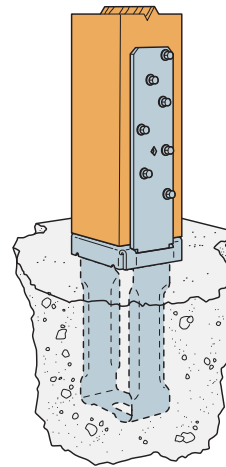

Figure 1 — Post Base with 1" Standoff
- For post bases with 1" standoffs, **full bearing on concrete is required**. A higher download may be achieved by solidly packing grout in the 1" standoff area before installation of the post. Allowable download shall be based on the capacity of the post, grout or concrete according to the code. (Figure 1)